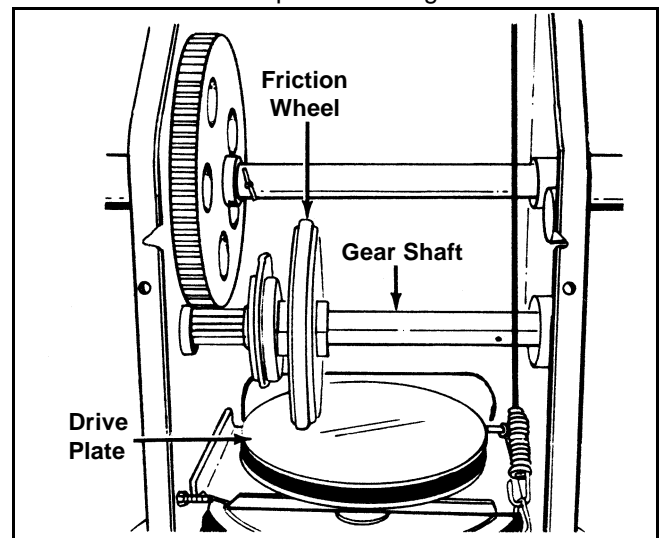

Figure 10
With the traction control engaged, the friction wheel must contact the drive plate. See Figure 10.
Lubricate the gear shaft with 6-n-1 grease at least once a season or after every 25 hours of operation (available at auto parts stores, or order part number 737-0170). Refer to Figure 10.
**IMPORTANT:** Avoid getting oil on rubber friction wheel and aluminum drive plate. Refer to Figure 10.